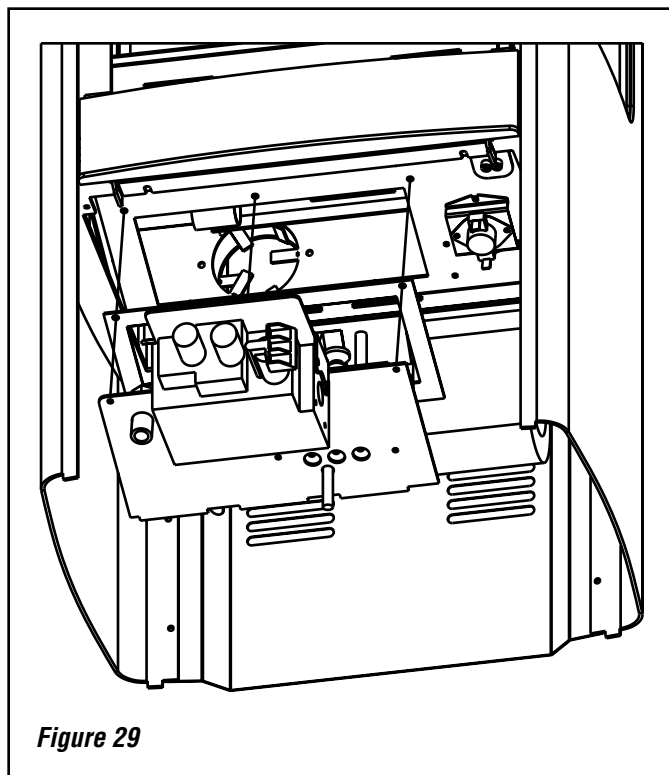

Figure 29
8. From inside the firebox, remove all three of the allen head screws (see **Figures 29 and 30**) fastening the cassette to the firebox.